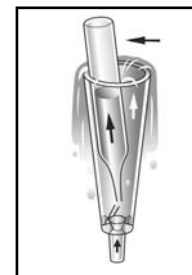

Figure 1
2. Place the Vacu-vial ampoule, tip first, into the sampling tube or sample cup. Snap the tip. The ampoule will fill leaving a bubble for mixing (fig. 1).